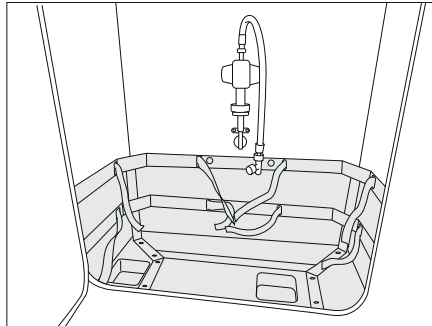
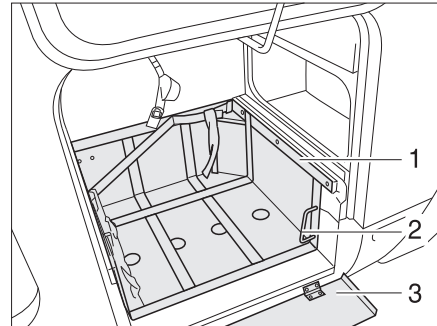

Fig. 223 Gas bottle compartment
Fig. 224 Gas bottle compartment with extendable slide
- If there is a guard plate (Fig. 224,3), fold it down.
- Unlock the slide (Fig. 224,1) using the handle (Fig. 224,2).
- Pull out the slide (Fig. 224,3) as far as possible.
- Turn back the handle (Fig. 224,2).
- Unlock the slide (Fig. 224,3) using the handle (Fig. 224,2).
- Push in the slide (Fig. 224,3) as far as possible, and turn back the handle (Fig. 223,2).
- If there is a guard plate (Fig. 224,1), fold it up.